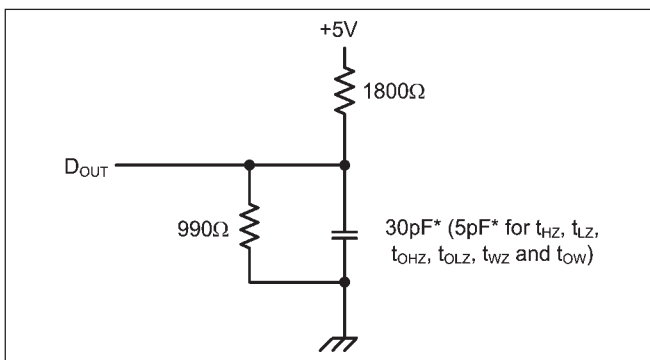

Figure 1. Output Load
4. Transition is measured  $\pm 200$  mV from steady state voltage prior to change, with loading as specified in Figure 1. This parameter is sampled and not 100% tested.
Output Load	See Fig. 1 and 2